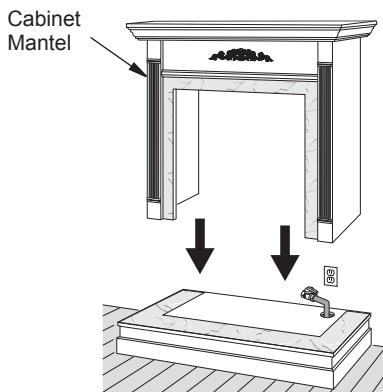

Figure 18 - Installing Cabinet Mantel
2. If using an optional GA3750A blower (FB32CA and NLFB32C models only), install a properly grounded, 120 volt three-prong electrical outlet at firebox location if an outlet is not there. If possible, locate outlet so cabinet mantel will cover it when installed (see Figure 18).
6. Center cabinet mantel on hearth base (see Figure 18). Make sure mantel is flush against wall.